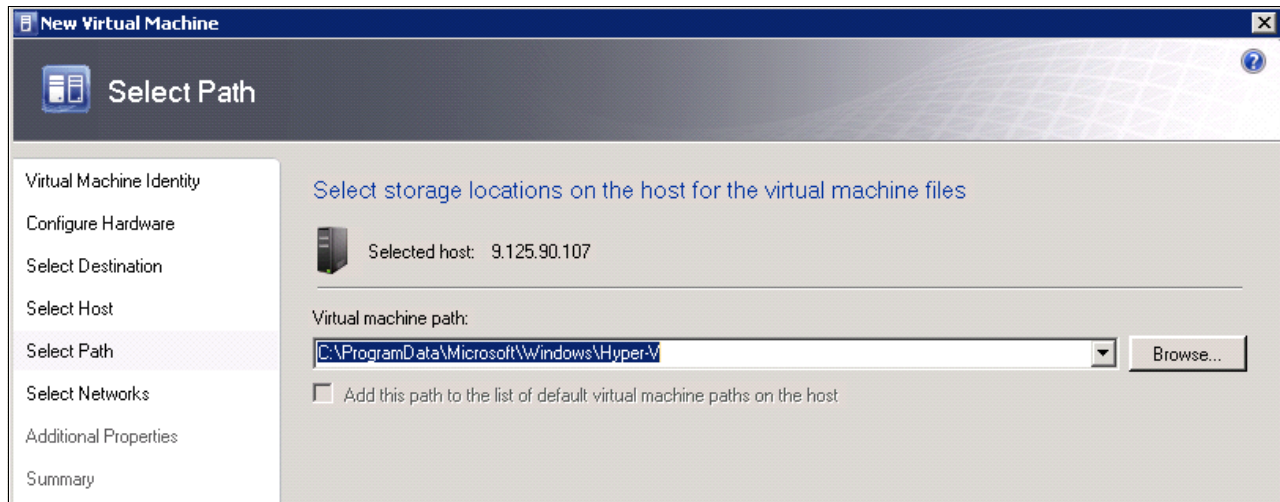

Figure 3-67 SCVMM New Virtual Machine: Select Path
6. In the Select Path window, enter the file path for virtual machine files, as shown in Figure 3-67. Click **Next**.